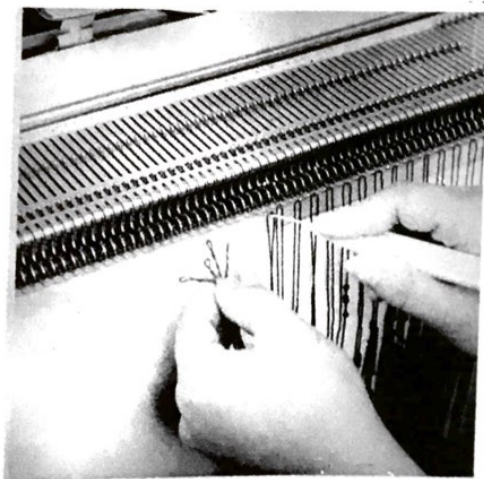

Fig. 57
- (b) Place each loop of the cotton into the hook of **alternate** working needles along that section of the work where the bead patterning is to be introduced. (Figs. 57 & 58)